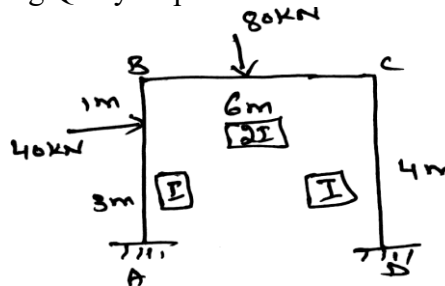

Fig Q2
- 2 Analyse the frame shown in Fig Q2 by slope deflection method and draw BMD.